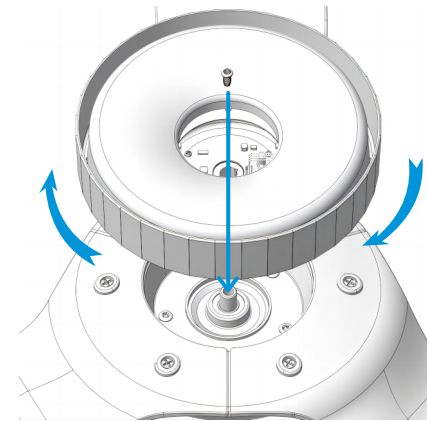

Fig. 2.1
2.1 Locate the light assembly from the packaging. Place the lampshade onto the motor hub. Feed the 2P terminal and 3P terminal through center hole of the lampshade. Rotate the lampshade clockwise until the slot inside the center hole aligns with the slot on the motor shaft, as shown in Fig.2.1.